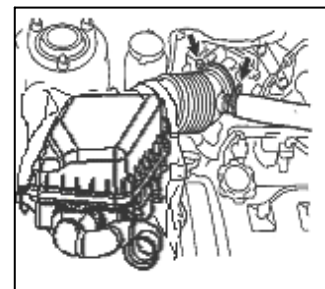

Fig. 1-3
4. Remove the air filter assembly with hose (see Figure 1-3 for MR479Q)